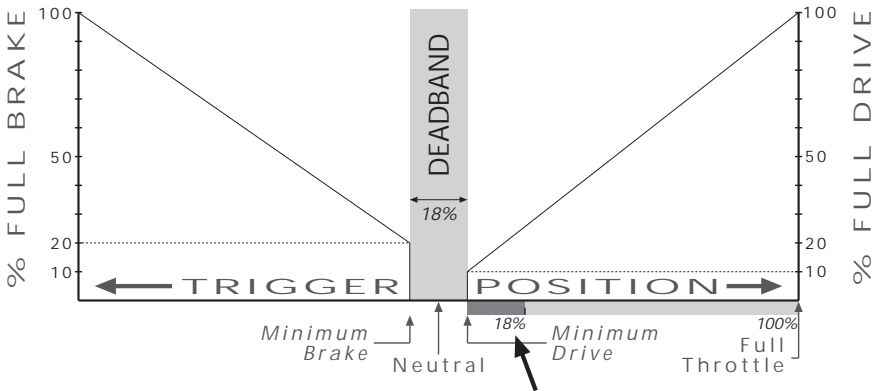

Figure 2: Deadband graphically displayed as a percentage of the Full Throttle trigger position, which is measured in microseconds.
- Space between Minimum Brake and Minimum Drive, with Neutral located at the center of this space (Figure 2).